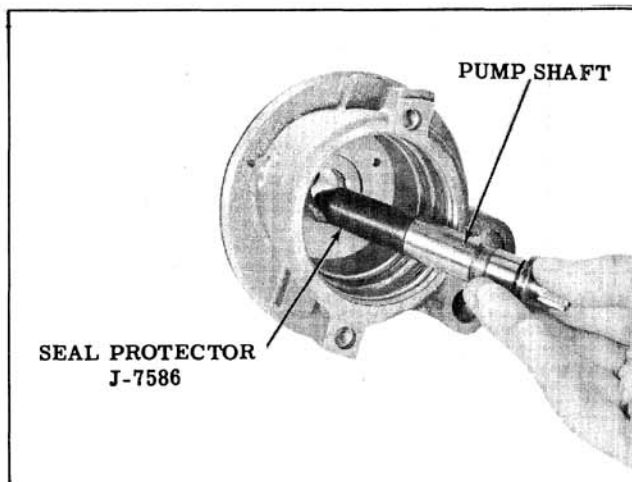

Fig. 8-31 Installing Pump Shaft
3. Place Seal Protector J-7586 over the threaded end of the shaft, then install the shaft in the pump body. (Fig. 8-31) Remove protector